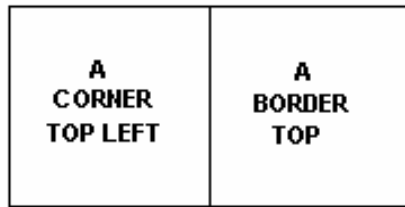

Figure 4
- Next going from LEFT to RIGHT lock "A BORDER TOP" to "A CORNER TOP LEFT" (Figure 4).